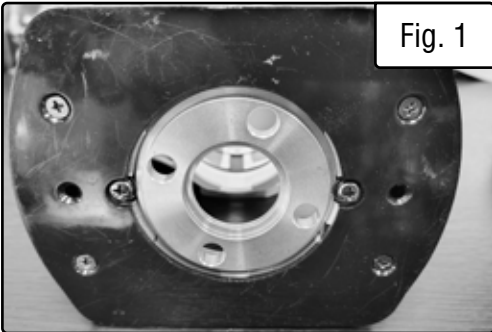
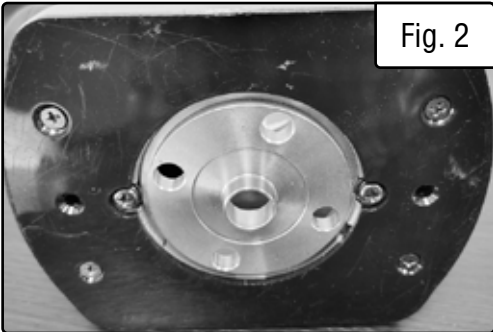

Fig. 1
Fig. 2
3. If your router requires use of the adapter plate, install the adapter plate with the recess facing down, away from the router body (Fig. 1). Then install the bushing onto the adapter plate (Fig. 2).